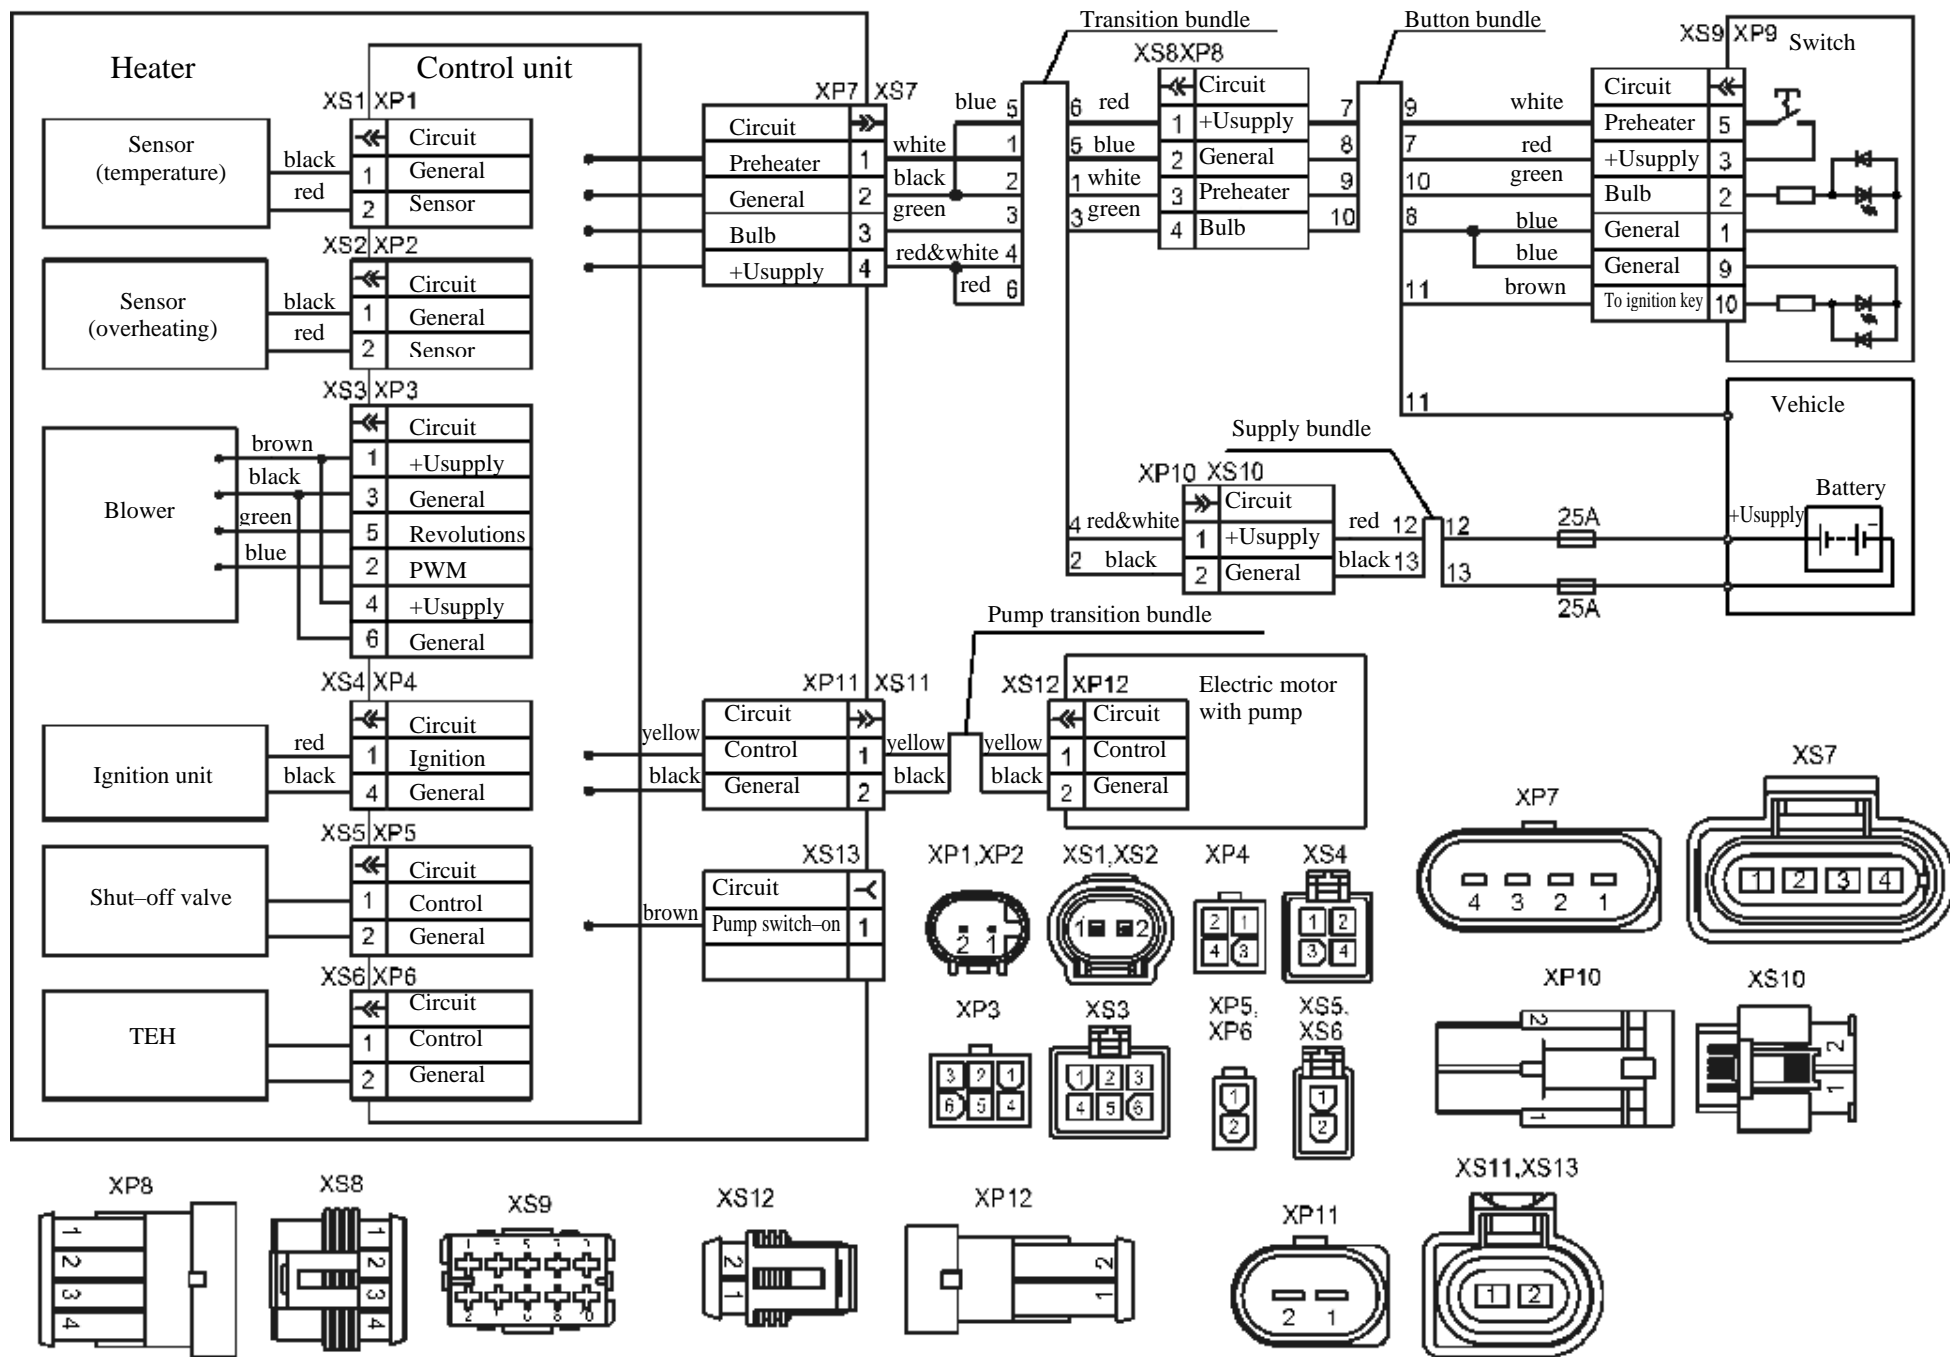

Fig. 1 – Electric connection layout
Heater fuel and electric power supply is realized from vehicle. Heater electric connection layout is shown in Fig. 1.
- 2 Check voltage on XS7 connector (see electric connection layout in Fig. 1). If no voltage on XS7 connector, it is necessary check and, if necessary, replace 25 A fuses on power supply bundle.
8.1 Start search for faults with checking connector contacts of checked circuits (see electric connection layout in Fig. 1).
\* to unblock, after switching heater on within 20 seconds remove XS7 connector from heater and after 5 seconds connect XS7 connector back (according to electric connection layout, Fig. 1). This procedure must be repeated three times.